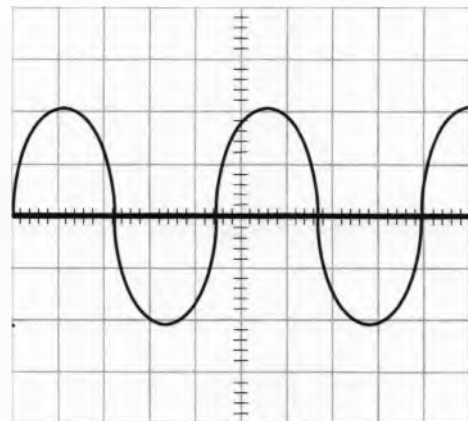

Figure 13
6. Set the *Input Coupling* control for one of the channels to the *AC* position so that one waveform is displayed (see Figure 13).